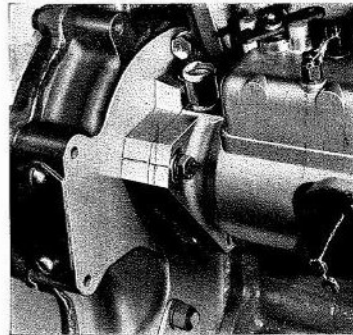

Fig. M.12.
flange and the back of the timing case, before tightening the setscrews. (See Fig. M.12).
On the fuel pump mounting flange is a scribed line which, when the fuel pump is fitted, should coincide with the scribed line on the fuel pump carrier plate (see Fig. M.12). A further line is provided on the rear of the timing case. Providing these three scribed lines are in alignment and the fuel pump gear correctly fitted and aligned (see previous remarks), then the fuel pump timing should be correct.
5. See that the fuel pump is correctly fitted with the scribed lines on the mounting flange carrier plate and timing case in-line. (See Fig. M.12).
Ensure that the fuel pump is correctly fitted with the scribed line on the mounting flange coinciding with the scribed line on the fuel pump carrier plate (See Fig. M.12).